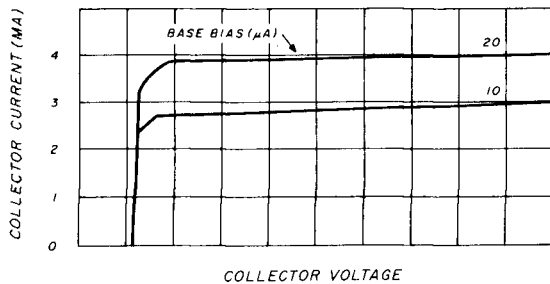

fig. 4. Typical curve for a pnp transistor (type 2N252) showing the relationship between base bias and collector current and voltage.
**Fig. 4** shows the relationship of collector current, collector voltage, and base bias for a typical npn transistor (type 2N252).